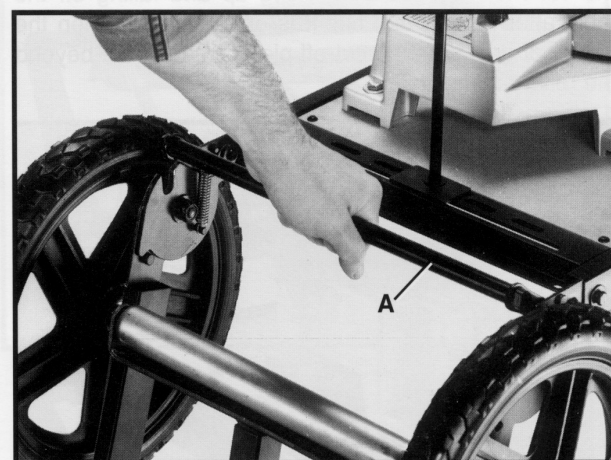

Fig. 27
1. To fold work stand for storage or transportation to a different location, lift up bar (A) Fig. 27, to disengage leg lock. **IMPORTANT:** Leg on wheel end of work stand should be folded first.